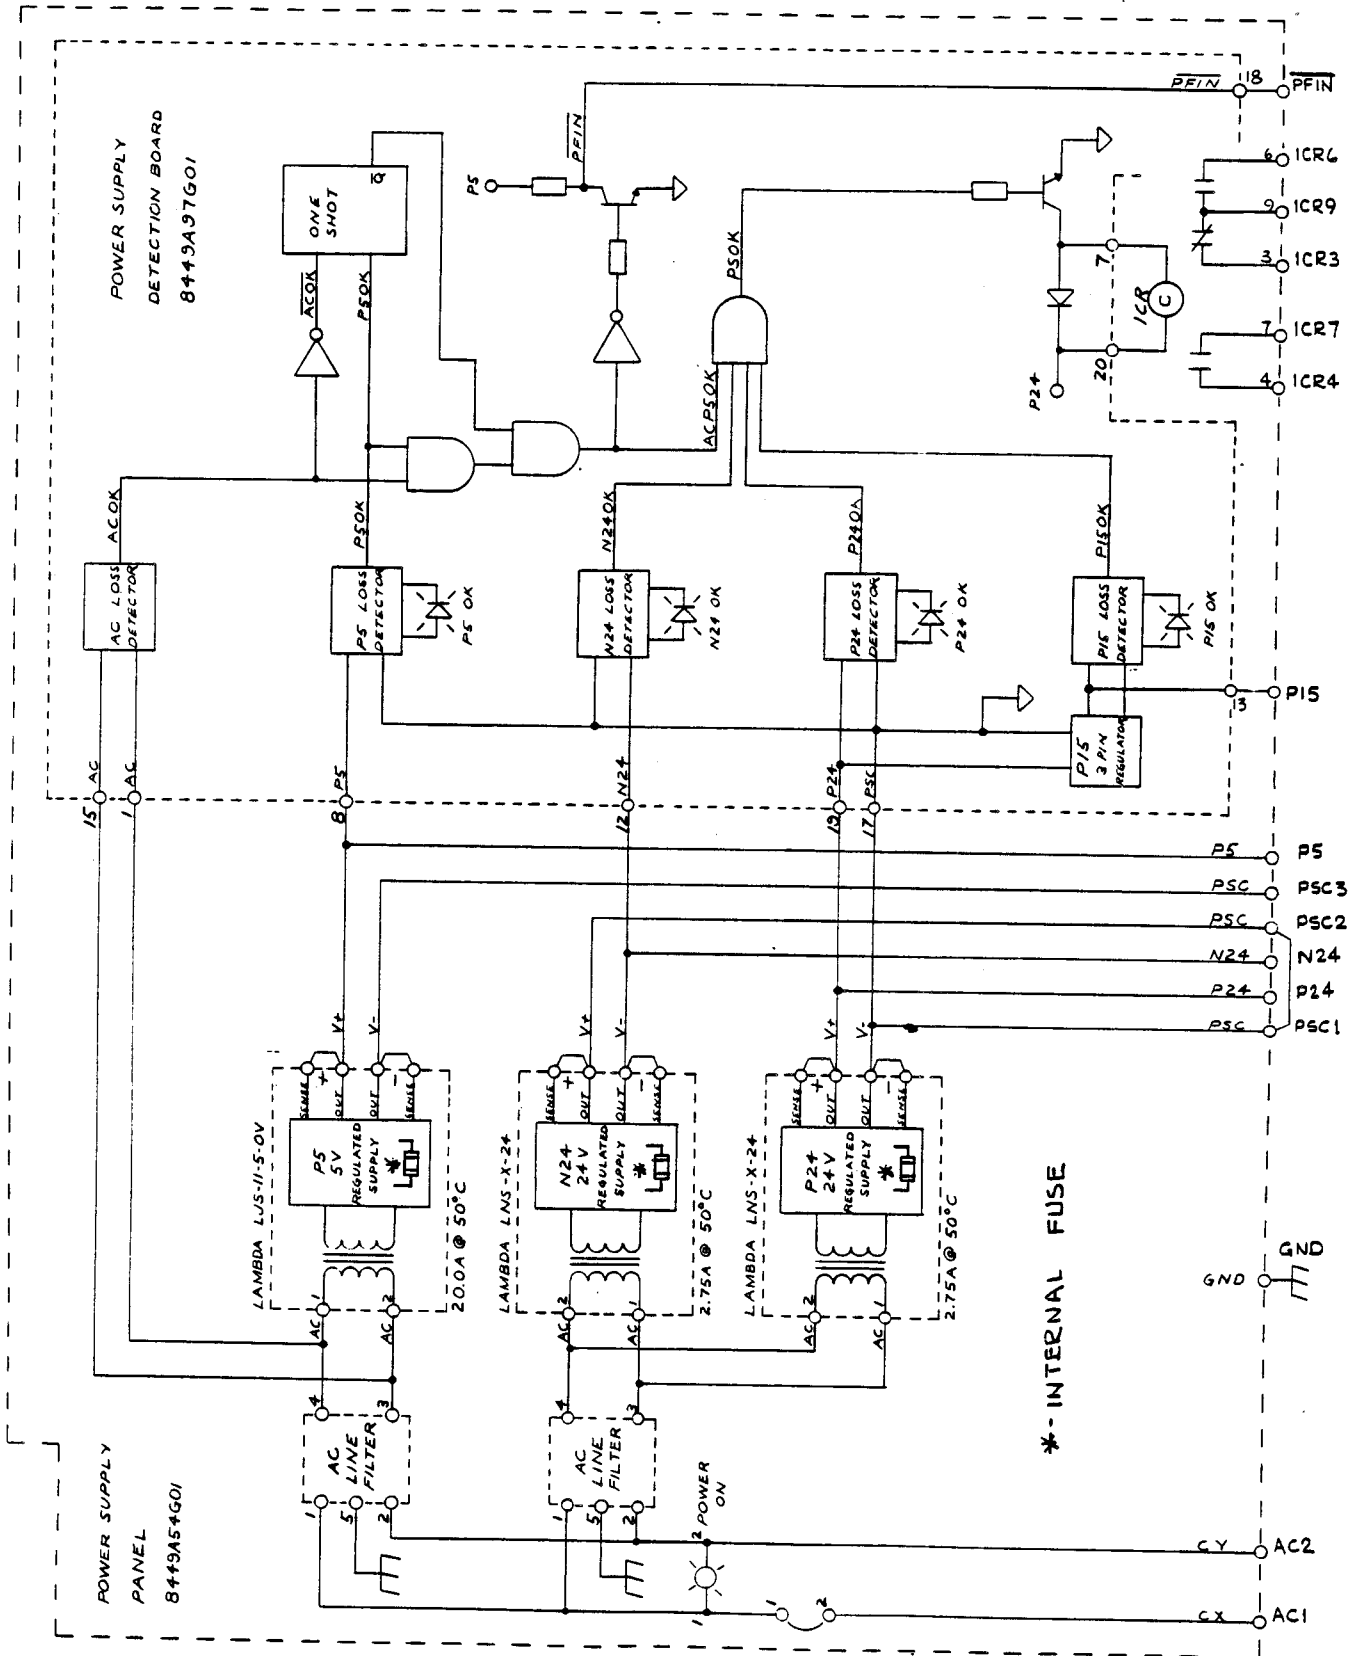

FIGURE 1
AC transients are prevented from affecting the DC supply outputs by the implementation of two line (AC) filters as shown on the block diagram in Figure 1. The AC line is protected by a 25A circuit breaker. An AC Power On light is also provided.